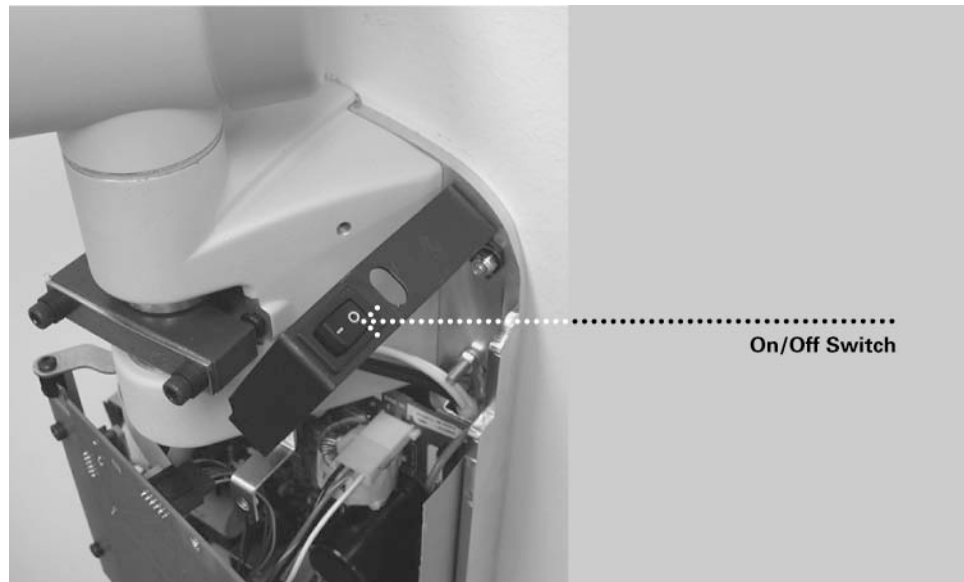

Figure 26
3. Turn on the VetVision DC X-Ray System using the power switch, as shown in Figure 25. On the Operator Panel, Figure 26, you will see the product display screen showing the software version. Then the Operator Panel will display the default technique factors.